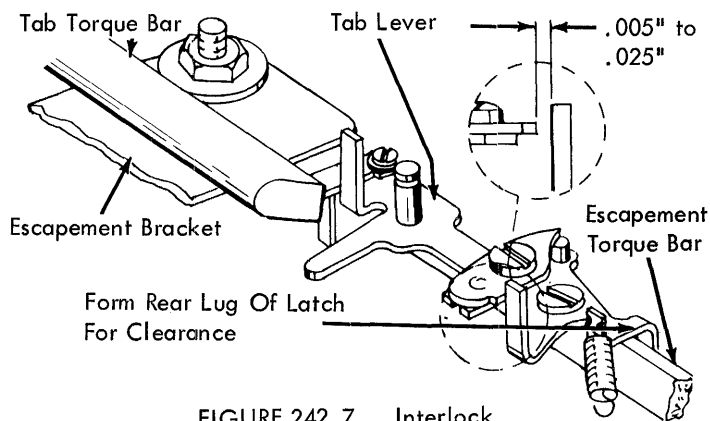

FIGURE 242.7. Interlock
11. Carrier Return/Tab Interlock (Fig. 242.7) - With the carrier return clutch latched, the upright lug of the tab latch should clear the end of the tab lever pawl by .005" to .025". The rear lug of the tab latch should be formed forward or back to obtain this condition.